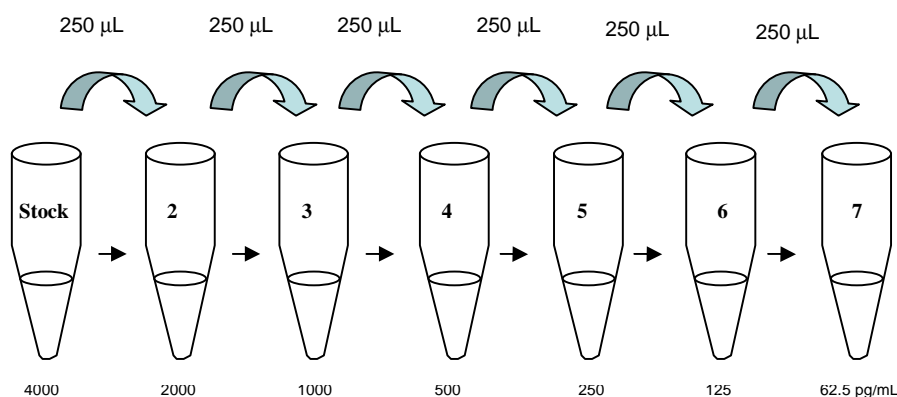

Figure 1: Suggested 2-fold Serial Dilution of Standard
- Standards #2-7 are then prepared by performing a 2-fold serial dilution of the preceding standard. Refer to Fig. 1. For example, to make Standard #3, remove 250 μ L of Standard #2 and add it to tube #3 and vortex and so on. Do not add any Standard to the "0 Dose" Standard tube.